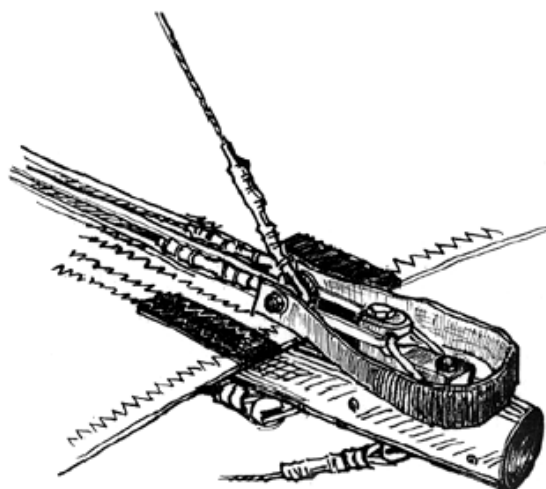

Fig. 19
2.2.12. Attach the shackle of the sweep wire to the hook on the keel tube (Fig. 19).